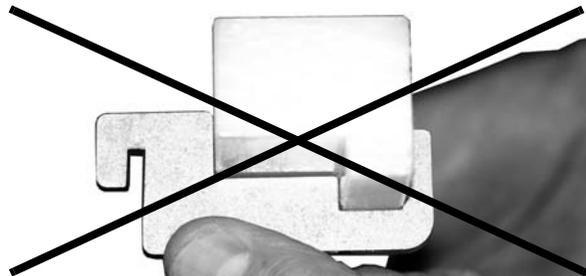
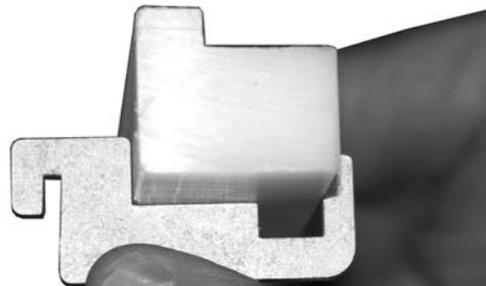

Figure 35
Figure 36
- Verify that belt returns are mounted correctly by following graphic below (**Figure 35**) shows incorrect mounting and (**Figure 36**) shows correct mounting.